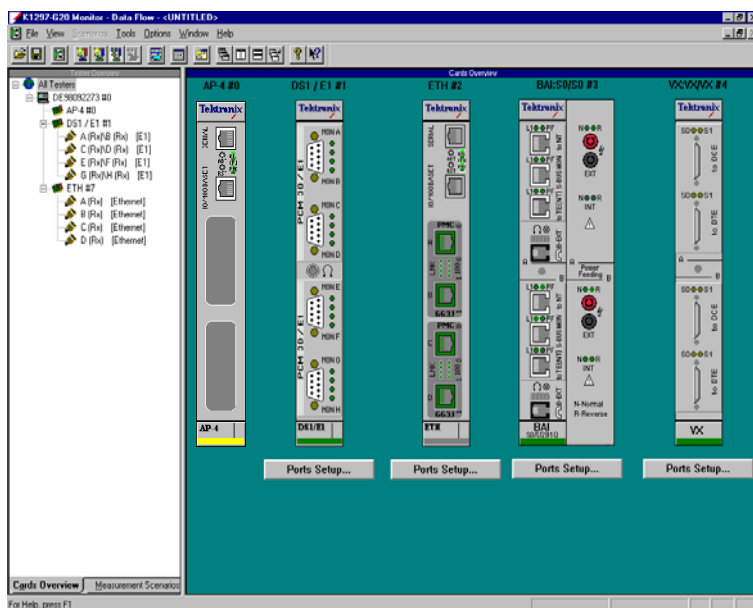

Figure 16: Card Overview window
1. Switch to the *Cards Overview* pane in the *Data Flow* window (see Figure 16). Use the *Cards Overview* tab on the lower left part of the screen.